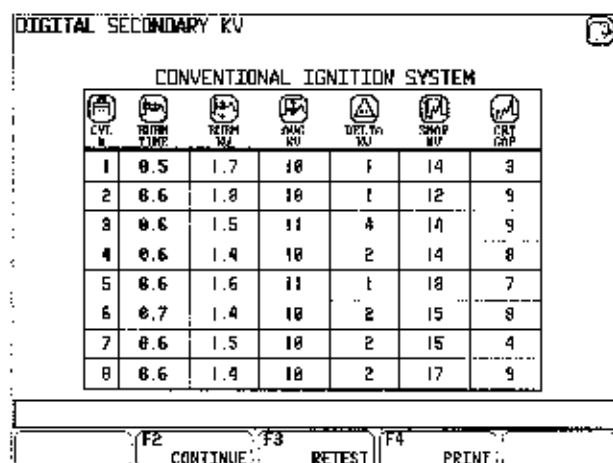

Figure 2-5
1. Start the engine. Select Item 3, "Digital Secondary kV" from the "Service Test Menu." The "Digital Secondary kV" screen appears (see Figure 2-5).